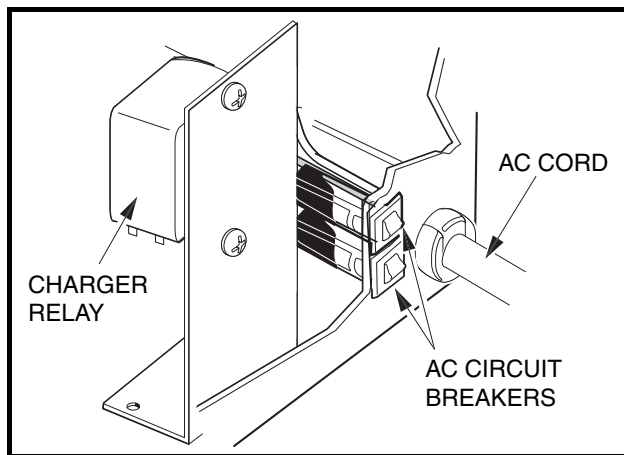

Figure 3-30 Charger Relay
3. Disconnect all wires from the relay (**Figure 3-30, Page 3-35**).
4. Remove the two screws and nuts attaching relay to relay mounting bracket (**Figure 3-30, Page 3-35**).